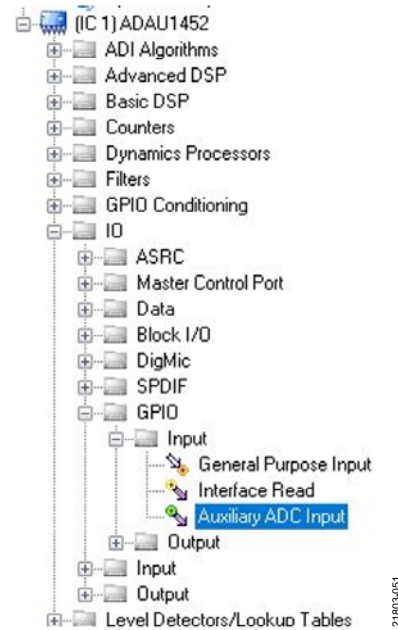

Figure 52. Adding an **Auxiliary ADC Input** Component
3. Add an **ADC In1** block by clicking the **Auxiliary ADC Input** component from the **IO > GPIO > Input** folder (see Figure 52), and then dragging it to the project space.